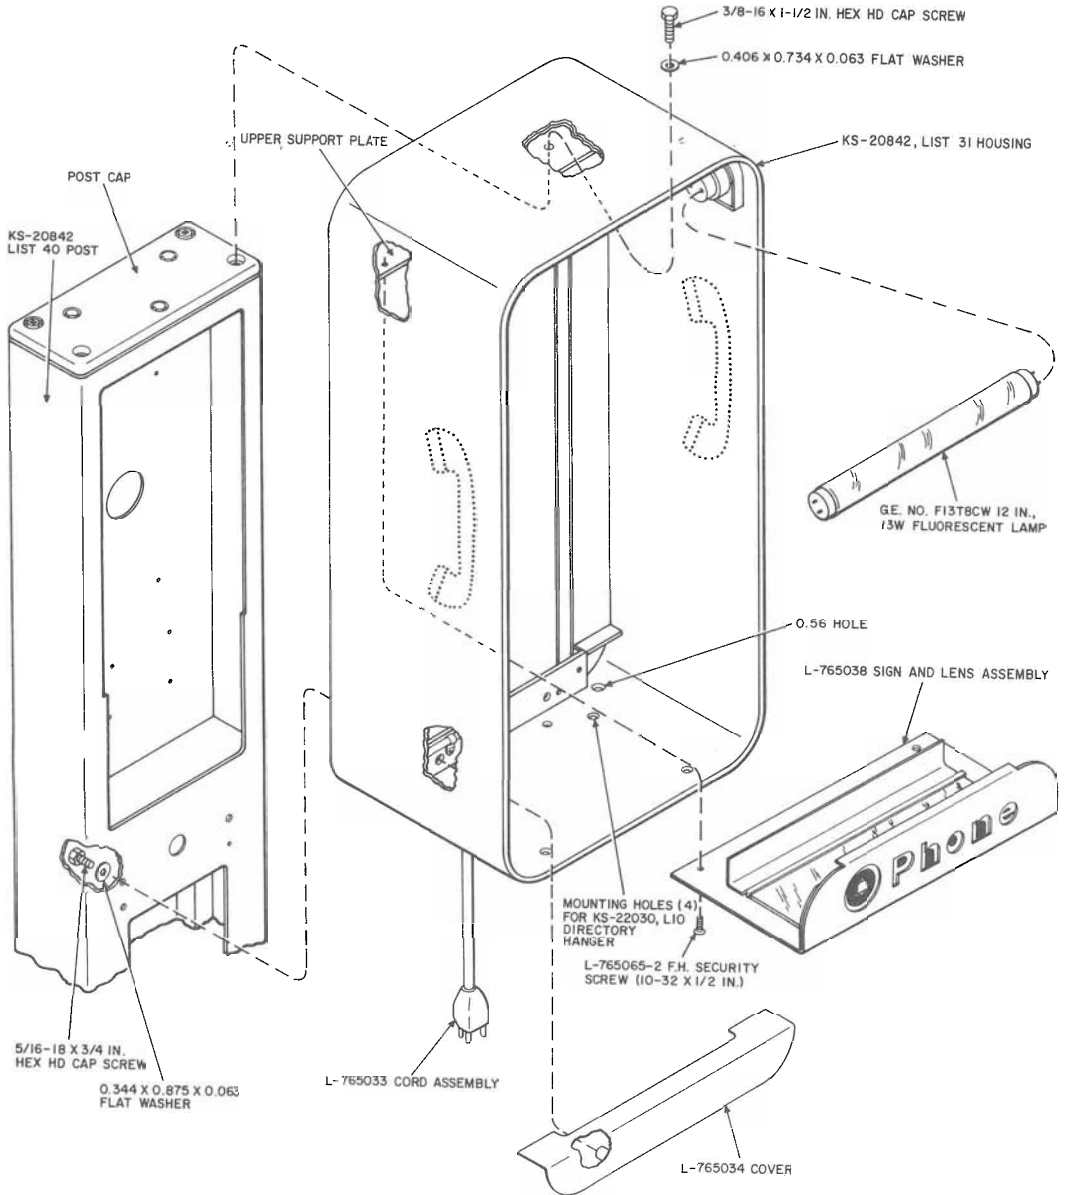

Fig. 11—Installing List 31 Housing on Post
- (1) Remove the two screws and washers and the L-765034 cover from the lower part of the KS-20842, List 31 housing (Fig. 11).
- (3) Insert the light sensitive cell, from inside the post, through the keyhole in the lower part of the housing.
- (4) Using the two clamps and two 8-32 by 1/4 Phillips pan head screws, secure the light cell to the housing as shown in Fig. 8. Position the end of the cell so that it will just touch the edge of the 0.56 hole (Fig. 11) in the bottom of the housing.
- (5) Remove the power cord from the electrical outlet.
- (6) Plug the light unit cord into the electrical outlet.
- (7) Insert the power cord into the rear of the light unit plug.
- (8) Press both the power cord and the light cell cord into the spring clip inside the post.
- (9) Install the L-765034 cover in the lower part of the housing using the two 5/16-18 by 3/4 hex head cap screws and two 0.344 by 0.875 by 0.063 flatwashers removed in (1). Reach in through opening on post and insert the screws through the post, through the housing, and into the rear of the cover (Fig. 11).
**3.16** When the KS-20842, List 31 housing is used, install a KS-20030, List 10 directory hanger to the bottom of the housing using the four L-765065-2 flat head security screws (No. 10-32 by 1/2) and four No. 10 nylon-insert nuts supplied with the hanger and the KS-19192, List 1 wrench. See mounting holes on Fig. 11.